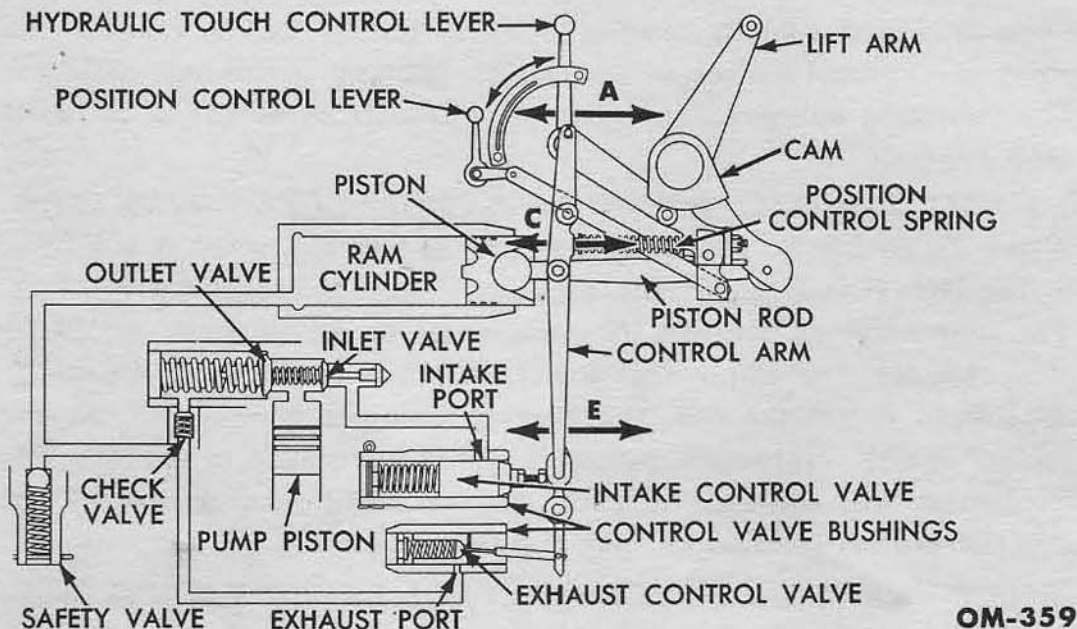

Fig. 62—Position Control
(6) *VARIATION IN SOIL TEXTURE*. Variations in soil texture will change slightly the draft on an implement. If the draft tends to increase, the action of the hydraulic system is the same as outlined in subpar. (4). If soil variation tends to decrease the draft, the action of the hydraulic system is similar to subpar. (5). When necessary, the operator may easily make small adjustments with the hydraulic touch control lever.
e. Position Control. The position control is illustrated in fig. 62. For position control operation, the position control lever is placed in the vertical position. When using position control, the control arm functions on points A, C, and E (fig. 62). Pivot point A is manually positioned by the hydraulic touch control lever. Pivot point C is positioned by the cam on the lift arm assembly. A lowering of the lift arms will move point C to the left. Point E can position the control valves in an intake, neutral, or exhaust position. The following subpars. list the sequence of events in position control.